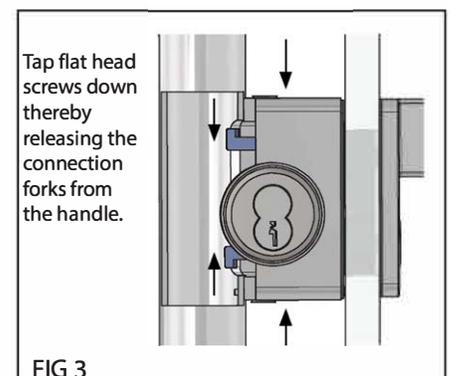

FIG 3
STEP 3: Gently tap each protruding screw head back into the countersunk holes. Doing so will release the exterior handle held in place by the connecting forks and allow the user to pull the it free from the cylinder housing (Figure 3).